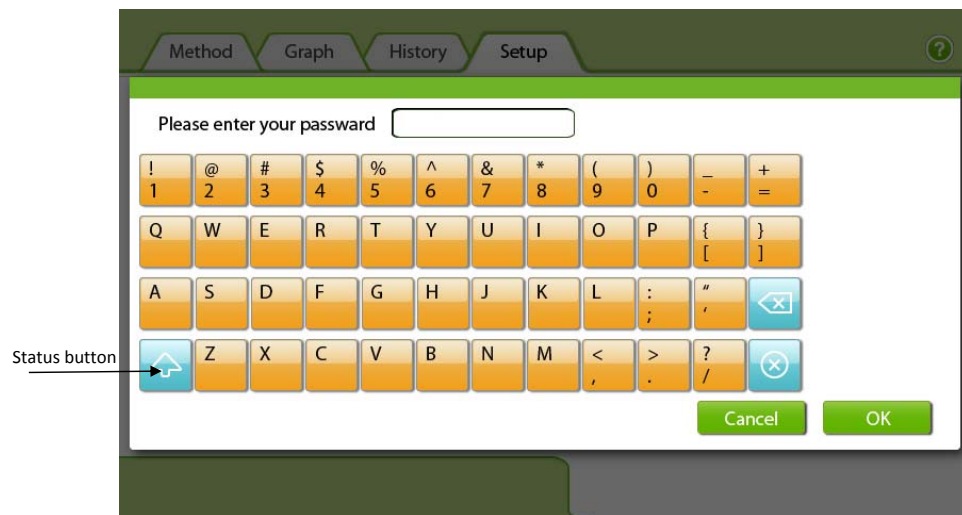
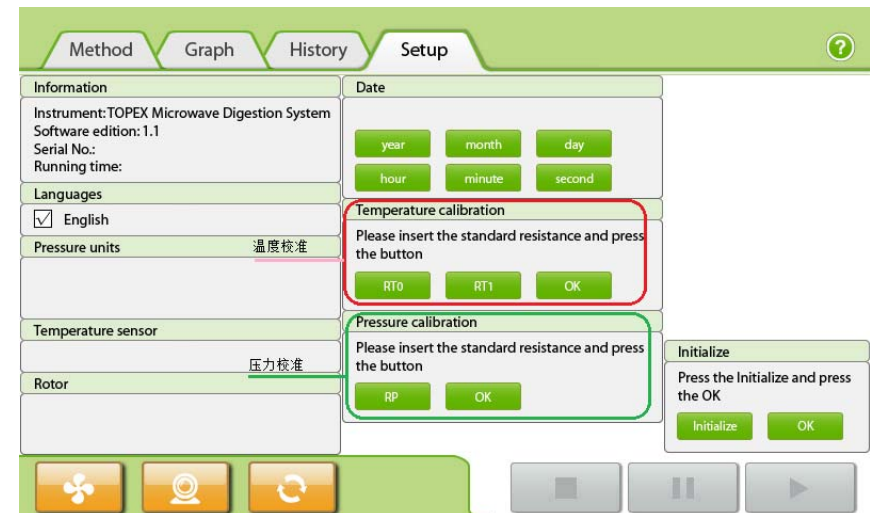

Fig 6-2 Lowercase status
Fig 6-4 Temperature and pressure calibration interface
(1) Use super password entering calibration interface, refer to fig 6-4. There are one thing need to notice, that is gray status represents lowercase and highlight represents uppercase, refer to fig 6-2 and 6-3.
- (1) Set 100.00Ω, click button RT0, refer to fig 6-4, it's no need to click OK button.
- (2) Set 199.50Ω, click button RT1, finally click OK button to save.
- (3) Disconnect resistance box, reinstall the temperature sensor, if the temperature value displayed on screen is not right, the temperature should be calibrated again.
- (2) Connect J6 pin G and J with a mini jumper, adjust side S until the output voltage is 4.00 V then entering setting interface and press button RP, refer to fig 6-4, finally click button OK to save calibration value. If the value displayed on screen is not right, pressure parameter should be calibrated again.